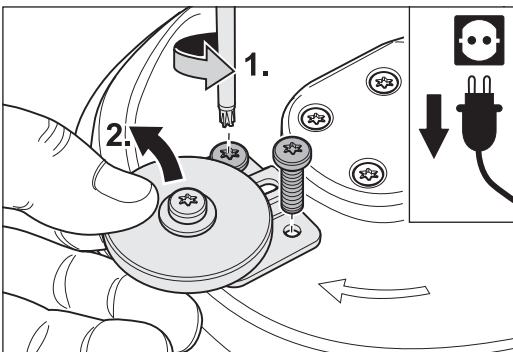

Fig. 65 Undo the fixing screws (1.) and remove the complete wall-protecting roller (2.).
- 4 Undo the two screws attaching the holder of the wall-protecting roller to the attachment (Fig. 65, 1.) and remove the complete wall-protecting roller (Fig. 65, 2.).